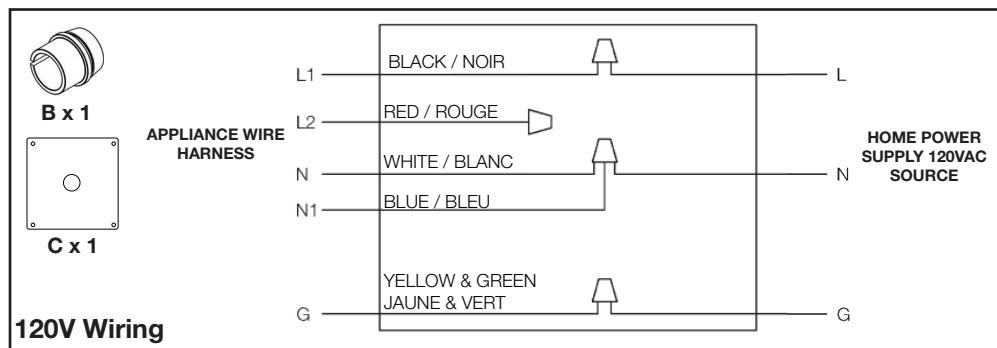

Fig. 4-1
- Install the new strain relief (supplied) (**Fig. 4-1**) into the new cover plate (supplied) and feed the 14/2 conductor wire through the strain relief.